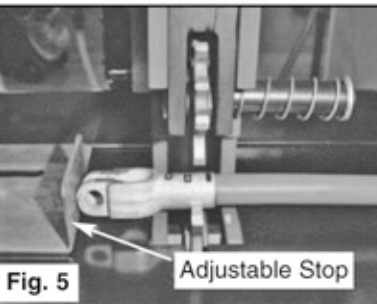

Fig. 5
5. Position the connector in the crimp dies. Use the adjustable stop to keep pressure on the connector and insure that the base of the connector is seated firmly against the cable insulation. (Fig. 5)